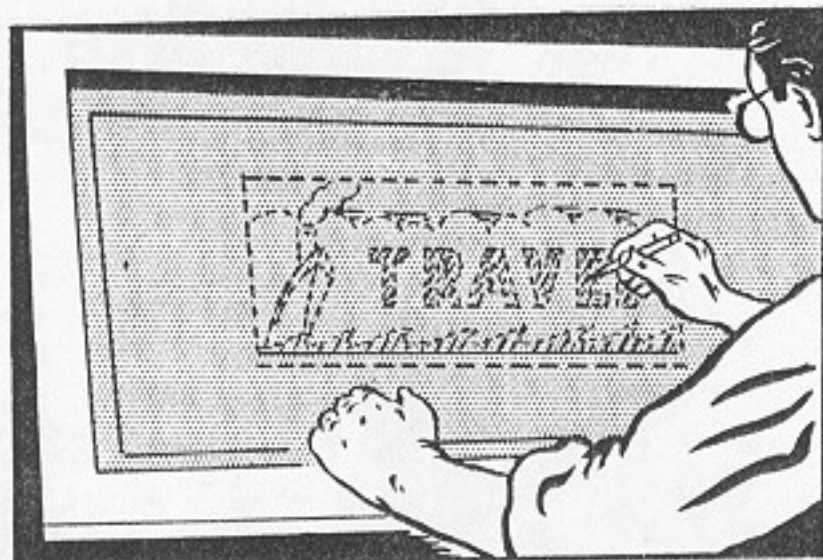

Fig. 88. Outline Design With Pencil
2. Lower the screen and accurately trace the original directly on the silk, Fig. 88.